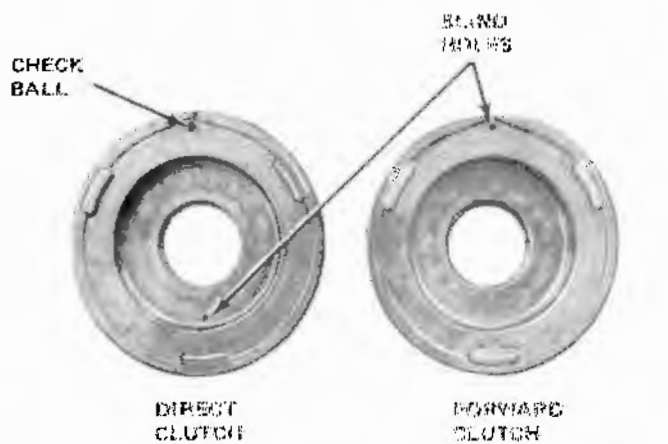

Fig. 7-66 Forward and Direct Clutch Parts Identification
(3) The forward clutch piston can be identified by the blind hole in the clutch apply face of the piston as shown in fig. 7-66.
(6) Use Clutch Spring Compressor W-306 and arbor press to compress springs; then fasten spring retainer to piston with snap ring.
(7) If removed, press short-spline end of turbine shaft into forward clutch housing, using arbor press.
(8) Place thrust washers on forward clutch hub. Retain with petroleum jelly or equivalent.
(9) Install hub and washers in clutch housing, as shown in fig. 7-66.